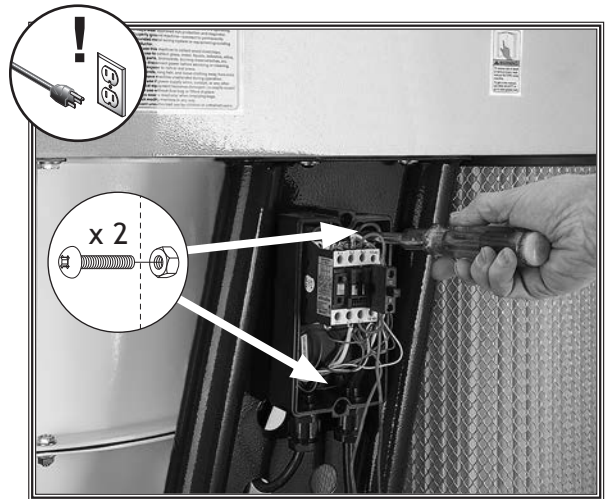

Figure 29. Example of installing magnetic switch on support arm.
31. Install magnetic switch over FIX SWITCH HERE label (left support arm for Models W1867 and W1868, right support arm for Model W1869), then secure with (2) 10-24 x 3/4" Phillips head screws and (2) 10-24 hex nuts (see **Figure 29**).